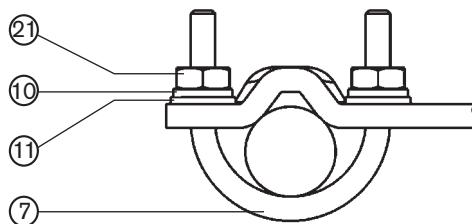

Figure 26: Attach positioner with mounting bracket; for actuators with columnar yoke
- Attach mounting bracket to the columnar yoke with the U-bolt (7), washers (11), circlips (10) and hexagon nuts (21) (see "Figure 26").